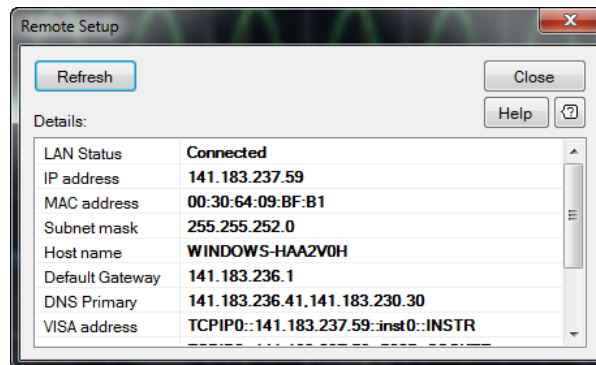

Figure 2-155 Remote Setup dialog
- 2 The Remote Setup dialog is displayed as shown in Figure 2-155. The remote setup parameters are listed in the Remote Setup dialog.